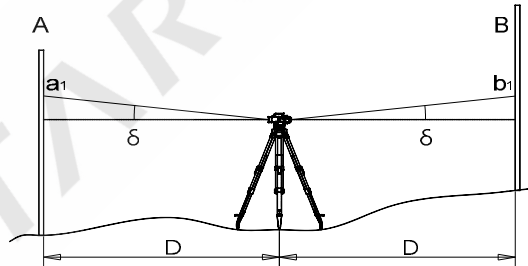

Fig. 12
- Set the instrument at a point halfway between point A and B, spaced about 30-40m apart. Take the readings of staff A and B as "a1" and "b1" (fig. 12)